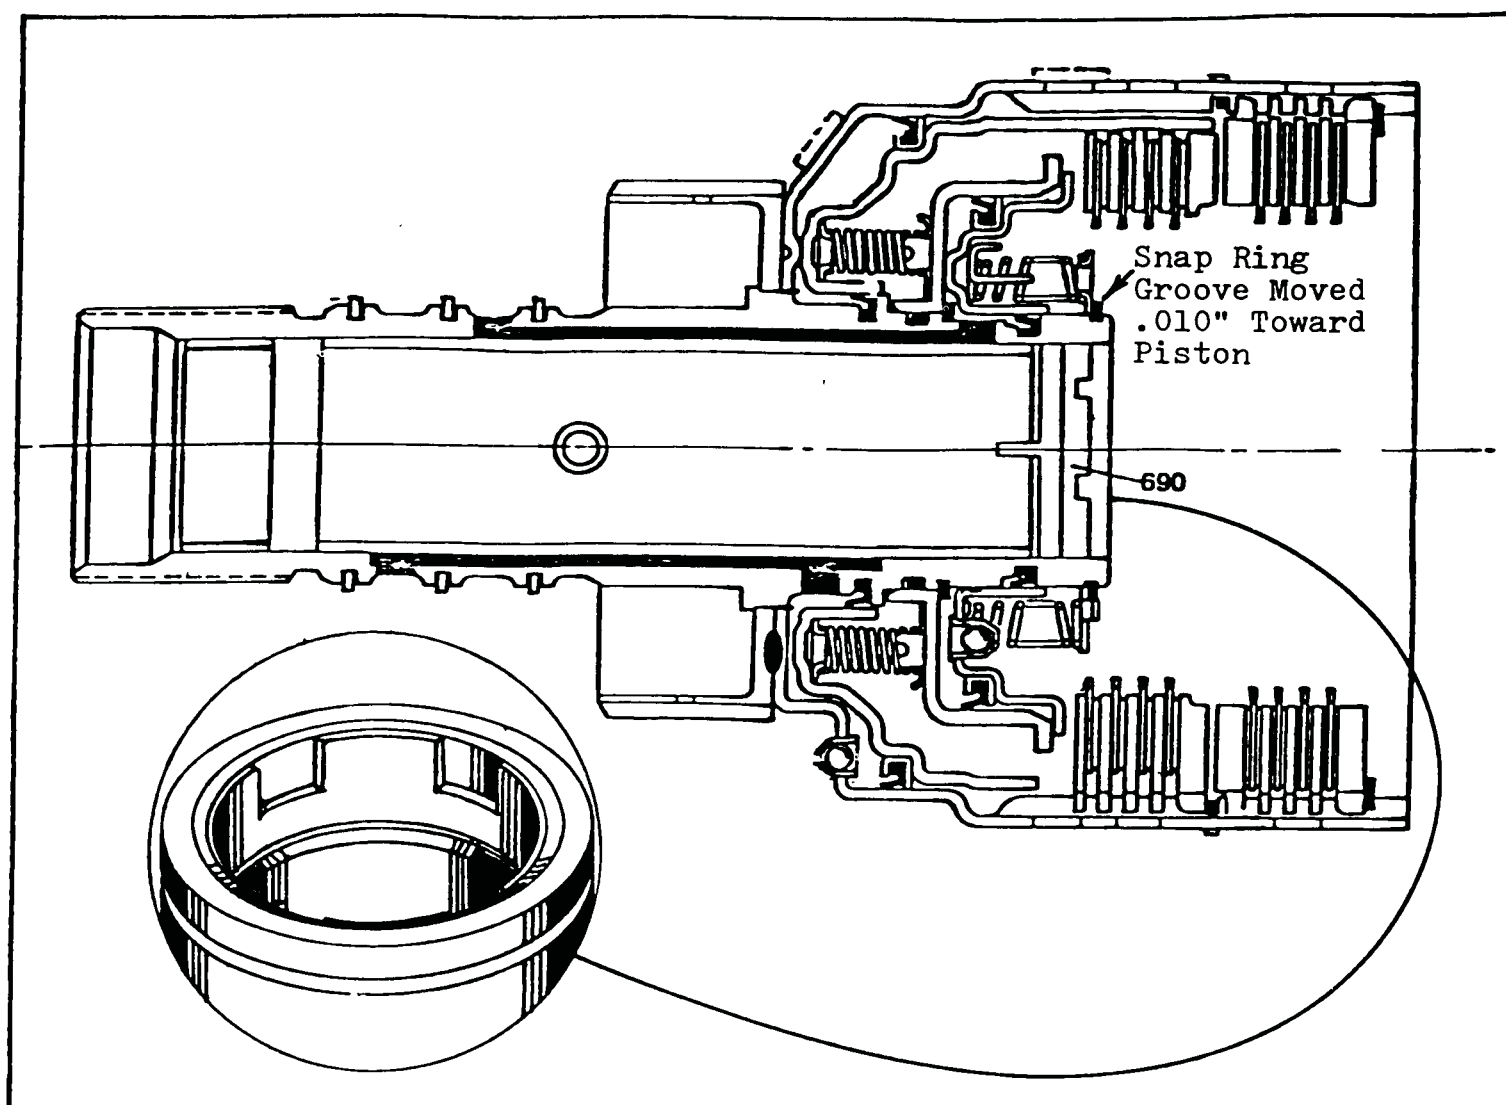

Figure 42
- 3) Input Housing - Snap ring groove moved .010" toward the 3rd clutch piston. This was done to move the 3rd clutch return spring assembly an additional .010" away from added oil dam for added clearance (See Figure 42).
NOTE: If new input housing is purchased, be sure to remove (690) sleeve from old input housing and reinstall in the new input housing, as it does not come with the new input housing (See Inset, Figure 42).
This (690) sleeve has notches in it to accept the tangs of the "Top Hat" washer to prevent the washer from spinning in the housing (See Inset, Figure 42).